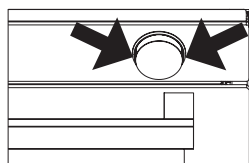
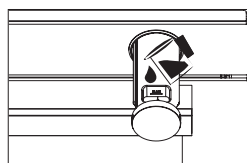
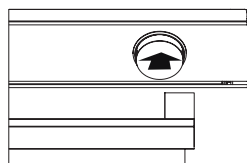
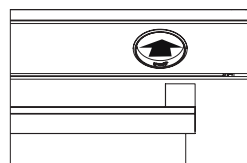

Figure 17
Figure 18
Figure 19
Figure 20
1. Remove the water container by pulling it out at the points indicated by the arrow. Fill the water container (See figure 17) and slide it in the direction of the arrow to the starting position to put it in place (See figure 18), (See figure 19). After 10 minutes of preheating, slide the water container in the direction of the arrow until you hear a "click" (See figure 20).